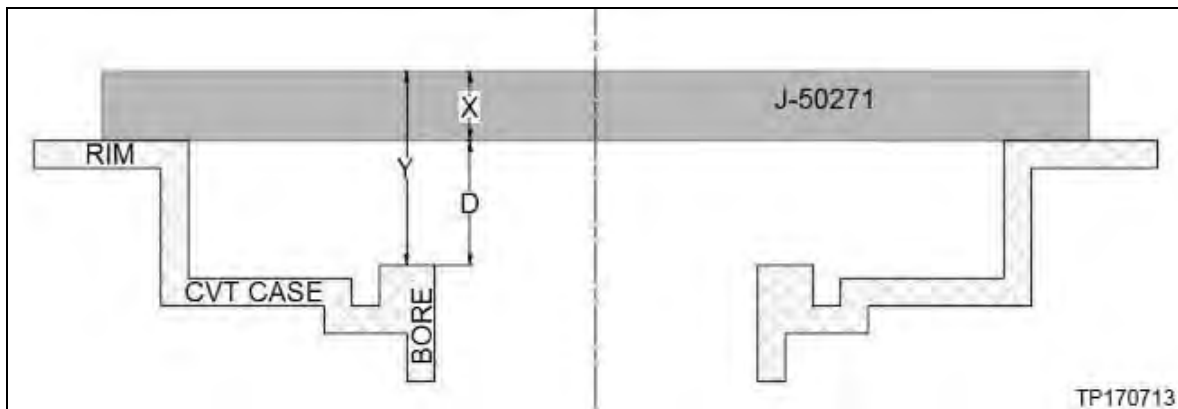

Figure 5M
NOTE: Only if a Gauge Block (J-50271) is not available, measurement "X" (Figure 5M, page 56) will need to be determined for the measuring bar being used. This can be done either with a set of calipers or with Digital Depth Gauge (J-50272).
8. Measure the average distance (Y) shown in Figure 5M as follows: